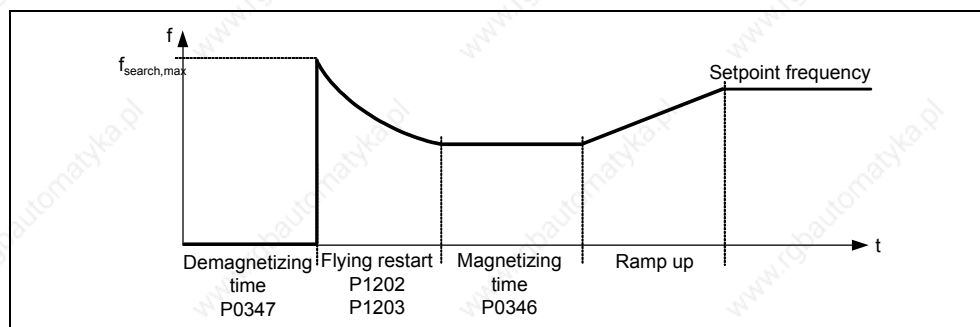

Fig. 3-82 Flying restart
- a) Depending on parameter P1200, after the de-magnetizing time has expired P0347, flying restart is started with the maximum search frequency  $f_{\text{search,max}}$  (refer to Fig. 3-82).
The search frequency is reduced, as a function of the DC link current with the search rate which is calculated from parameter P1203. In so doing, the parameterizable search current P1202 is impressed. If the search frequency is close to the rotor frequency, the DC link current suddenly changes because the flux in the motor establishes itself. Once this state has been reached, the search frequency is kept constant and the output voltage is changed to the voltage value of the V/f characteristic with the magnetizing time P0346 (refer to Fig. 3-82).